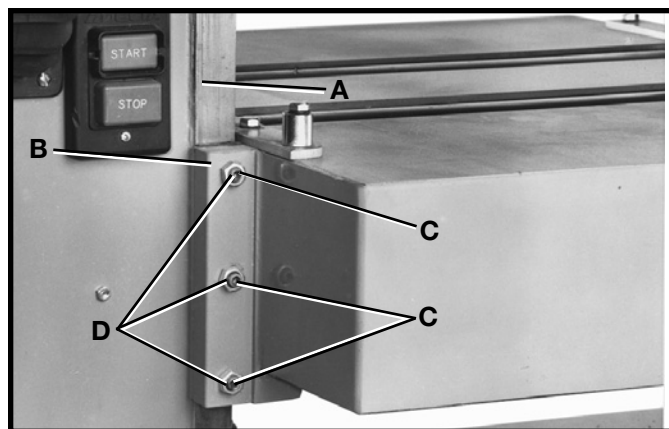

Fig. 54
2. With the table in the locked position, and with a feeler gage, measure the gap between table gib (A) Fig. 54 and table bracket (B). When set correctly the gap should be .005 .
3. If an adjustment is necessary, loosen three locknuts (C), and turn three adjustment screws (D) Fig. 54, as necessary to set the correct gap.
4. Check and adjust the gap on the other side of the table in the same manner. Tighten six locknuts, three of which are shown at (C) Fig. 54, after adjustment is made.